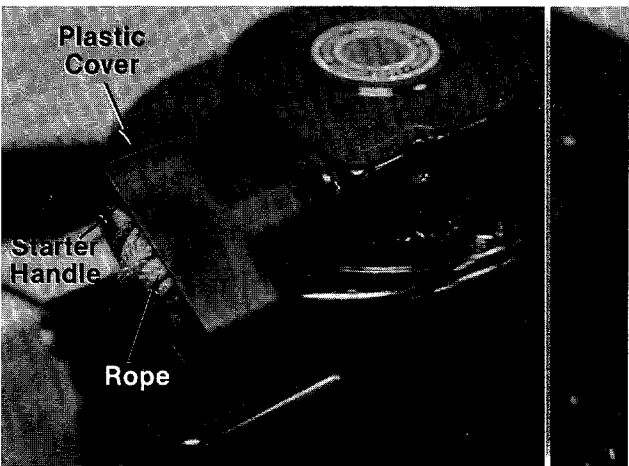

FIGURE 9.
14. The starter rope and handle may be secured with a plastic cover for shipping purposes. Remove the plastic cover and discard. See figure 9.